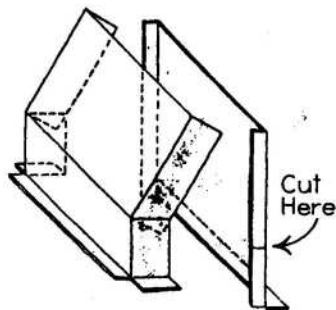

Fig. 3
7. Cut sides of back piece so that it conforms to the front piece. (The top of the stove can be used as a base for forming the bend needed on the back piece.) (Figure 3)